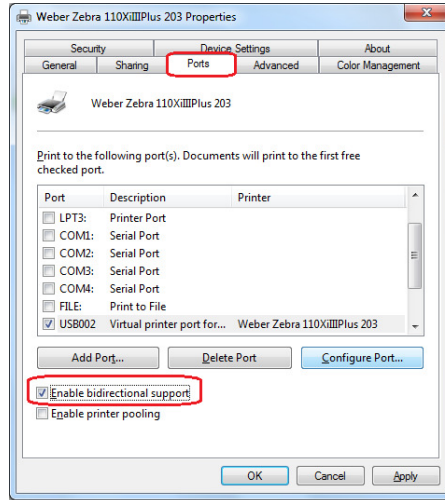

Figure 19
19. **Uncheck** the Enable Bidirectional Support option (near the lower left). (Figure 19)